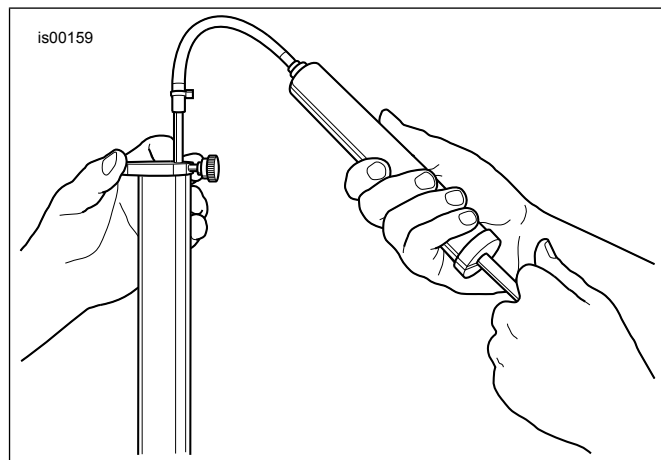

Figure 5. Remove Excess Fork Oil
- d. See Figure 5. Insert rod into top of fork tube until metal ring rests flat on top of fork tube.
- See Figure 5. Insert rod into top of fork tube until metal ring rests flat on top of fork tube.